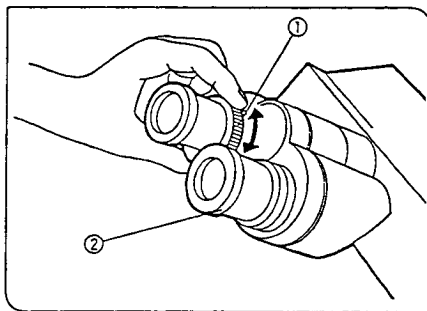

Fig. 47
### 2 Diopter Adjustment (Fig. 47, 48)
2. Looking through the left eyepiece with your left eye, turn the diopter adjustment ring ① to focus on the specimen. (Fig. 47)
1. Looking through the right eyepiece with your right eye, turn the top ② of the eyepiece until a clearly defined double crossline can be seen in the field of view. (Figs. 47, 48)
3. Looking through the left eyepiece with your left eye, turn the diopter adjustment ring ① to focus on the specimen.